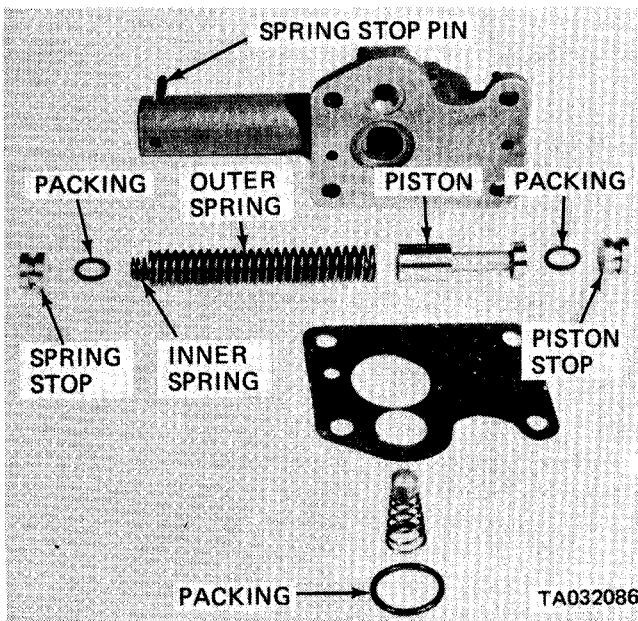

Figure 4-2. Regulator valve assembly, disassembly.
(1) Depress spring stop and remove spring stop pin (fig. 4-2).
(2) Remove spring stop and inner and outer springs.
(3) Remove pin at opposite end and remove piston stop and valve piston.